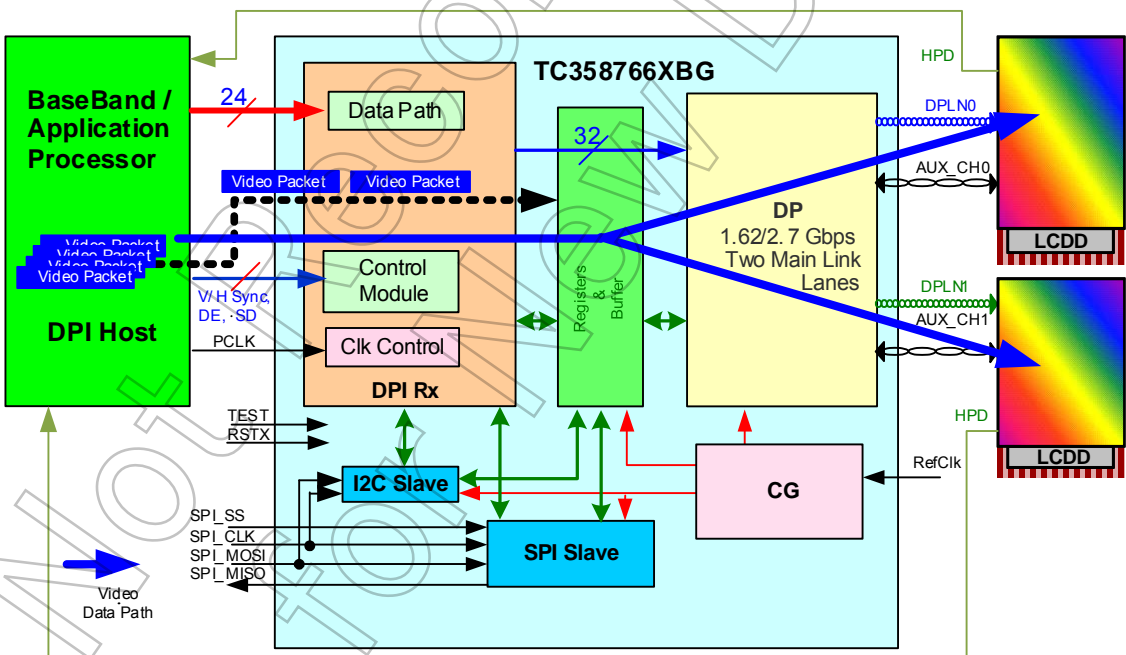

Figure 1.4 System Overview with TC358766XBG in MODE_P22 Configuration
- Mode_P22: An alternate system configuration where TC358766XBG may typically be used is shown in Figure 1.4. This is similar to the Mode_S22 except that the video stream source is from DPI Host. Same video stream is displayed on both display devices. In this configuration, the TC358766XBG can support displays with resolution up to WXGA+, WSXGA (1440x900) at 24bit, 60 fps or WSXGA+ (1680x1050) at 18bit, 60 fps.